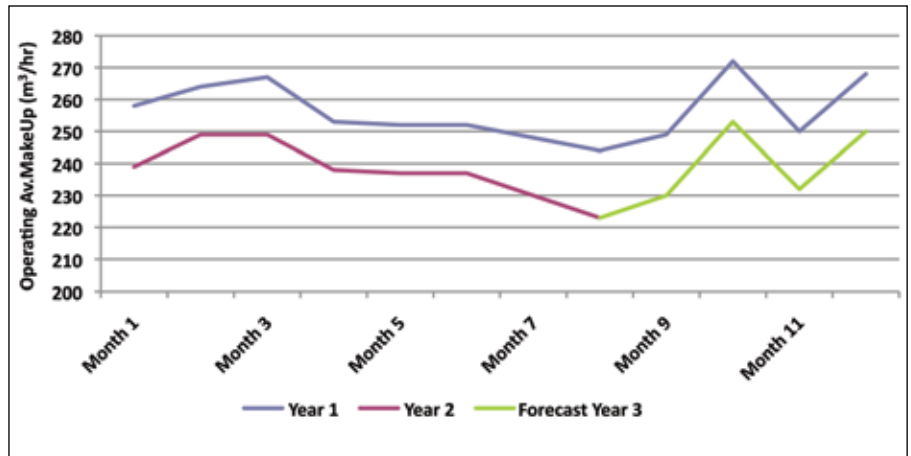

Figure 2 – Decrease of demineralized water by 21,900 m³/year.
2. Using condensed water from an air compressor as feed water for HRSG's instead of wasting on cooling tower, there were savings of 21,900 m³/year of demineralized water that represented savings of US\$44,937 / year. There were also additional savings on cartridge filters, membrane cleaning products and frequency, etc. See Figure 2.